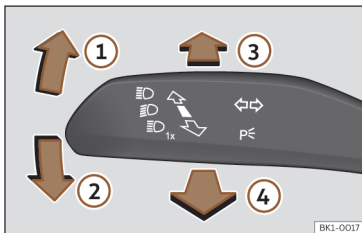

Fig. 107 Turn signal and main beam lever (depending on the version).
- From the base position, press the turn signal and main beam headlights lever forwards >>> **Fig. 107 ③**.
- **EITHER:** if light assist is on, pull the turn signal and main beam headlights lever backwards >>> **Fig. 107 ④**.